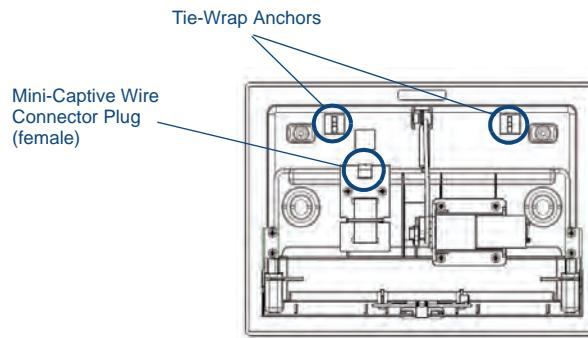

FIG. 3 MVP-WCS-52 - Rear View Of Anchors And Connector Plug
7. Secure the power cable to the device, using either of the two tie-wrap anchors included in the Installation Kit at the top rear of the device (FIG. 3). Point the head of each tie wrap toward the center of the device.